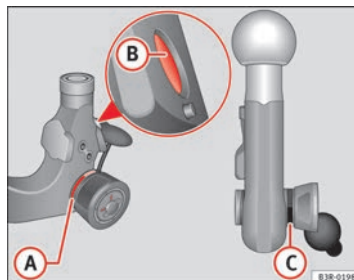

Fig. 169 Removable towing bracket: Ball joint
- Check that the red marking **(A)** ⇒ Fig. 169 on the knob is inside the black zone marked on the ball joint.